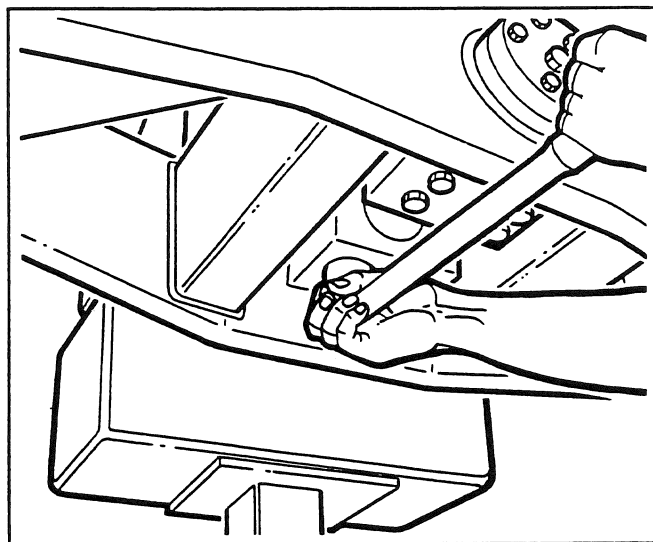

Fig. 6
7. Make sure the mounting block mating faces (15) are clean. Place the safety stand under the nose plate and lower the front end of the grader onto the axle frame. Align the pivot pin with the mating groove of the upper pivot blocks. Shut down the engine. Remove and retain the ignition key.
8. Align the match marks and install the lower mounting block halves (15). Retain the mounting block halves with bolts (16) and lockwashers (17). Tighten the bolts to the specified torque (see Fig. 6).